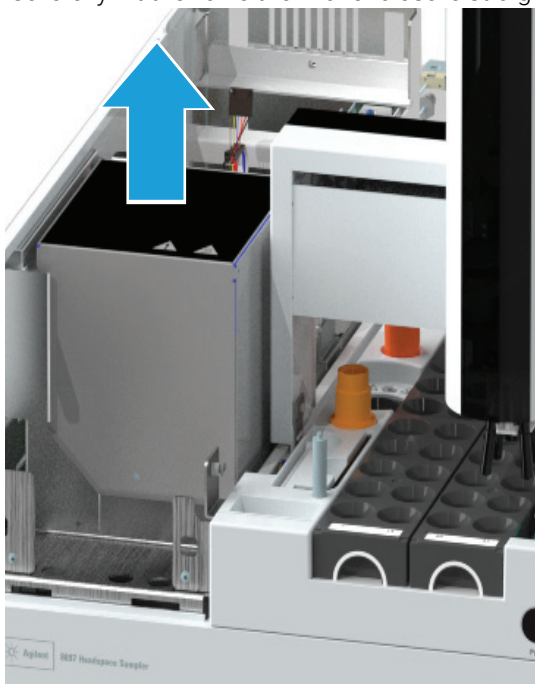

Figure 4. Lift the valve thermal enclosure straight up
- 3 Carefully lift the valve thermal enclosure straight up and off of the Headspace (**Figure 4**).